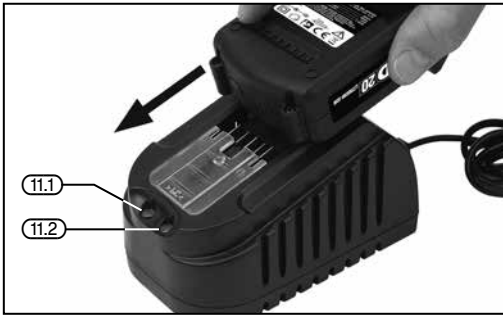

FIG. 6
6.5 BATTERY PACK CHARGING – FIGS. 6–7